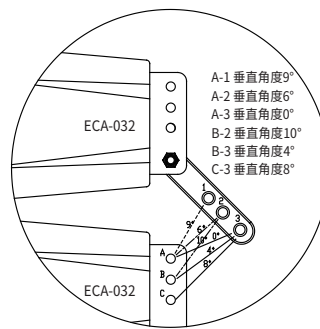

图1
1. 全频音箱（ECA-032）与全频音箱（ECA-032）通过吊挂件三点连接，其中后板吊挂件通过插销可进行垂直角度0°-10°六档调节（如图1）；
1. Connect one ECA-032 with another ECA-032 via connection parts at three points. Use the pin to adjust vertical angle 0°-10° in 6 steps (refer to figure 1).